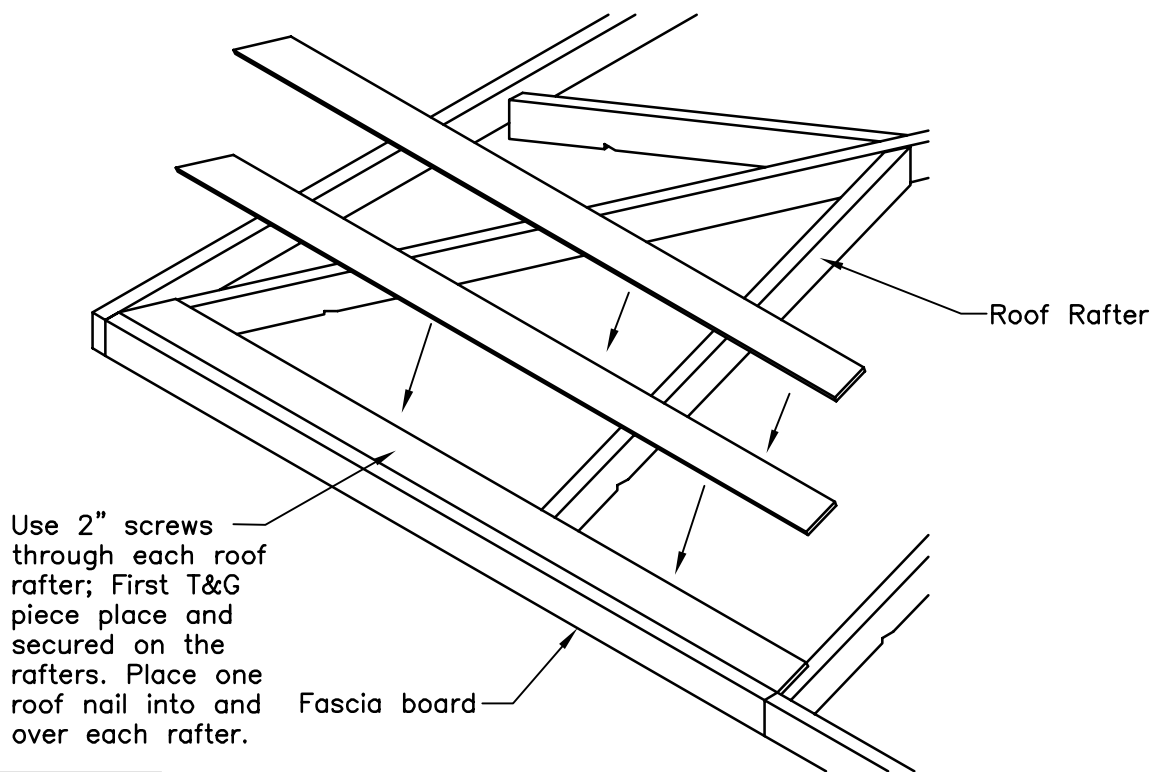

FIGURE S26
- The first row of sheathing will be flush with the fascia boards. Place the first piece and the second will inter-lock into the first one and so on. See Figure S26 for details.